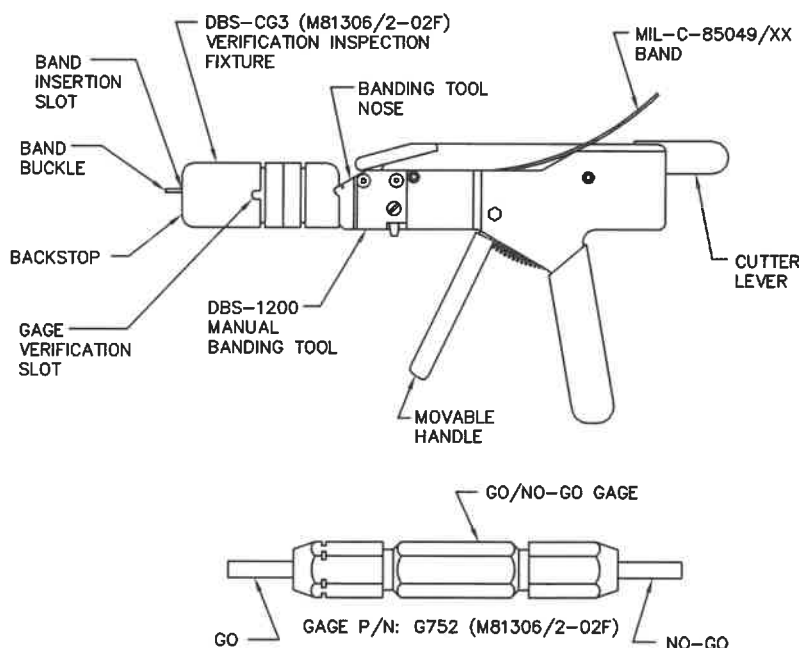

FIGURE 8
- 2.1.1 Place the verification inspection fixture DBS-CG3 (M81306/2-02F) and the manual banding tool so that they may be oriented as shown in Figure 8.